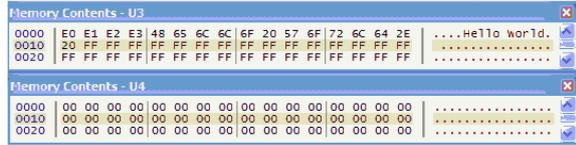

Fig. 3. The initial contents of the memory chips.
- 2- Use File→Load design to open the file-browser, navigate to **Exp7A** folder, and load **Exp7Bus.DSN** file to ISIS. You will get the design window seen in Fig.3.